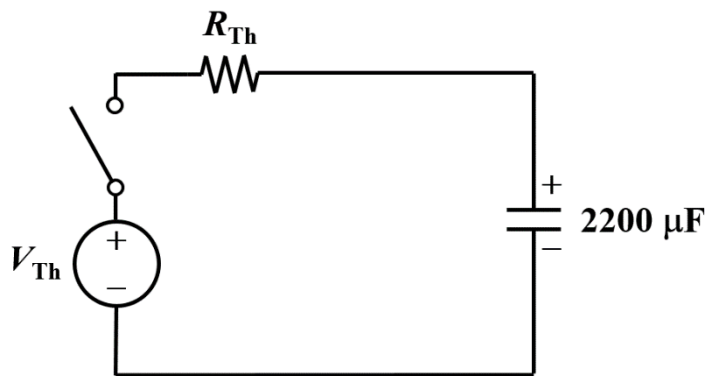

Figure 3: Circuit diagram showing the capacitor in series with a Thevenin equivalent circuit.
5. Draw the new representation of the circuit showing the capacitor connected in series with the Thevenin equivalent circuit, with the V_{Th} and R_{Th} values you have calculated in Step 4. Your circuit should look like Figure 3 below.